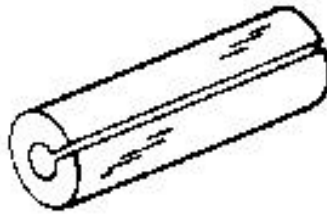

Figure 9. Grommet
- (3) Grommets, P/N 35450-1 is approximately one inch long and a quarter of an inch in diameter. The silicone rubber grommets are available for use in ambient temperatures up to 500° F (246° C). See Figure 9 for a typical unit used between a sensing element and a mounting clip.